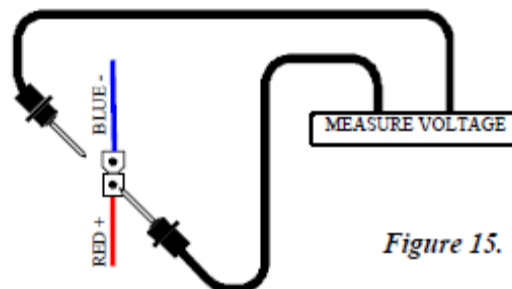

Figure 15.
11. Disconnect the red key switch connector harness (13).
12. Measure voltage across the two pins on the male connector (red and blue wires). **See figure 15.**
- 0VDC? - Check the fuse for continuity. No continuity? - Replace the 1 amp fuse. Refer to the wiring diagram on page 11. Continuity? - Replace the main harness (7).